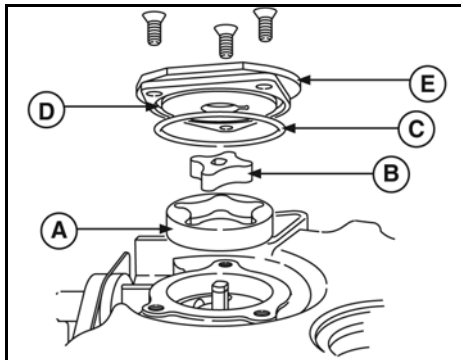

Figure 20
3. Pre-oil and install outer rotor (D, Figure 20) in pump cavity. Do not use force to install.
4. Pre-oil and install inner rotor (C) in pump cavity.
6. Place o-ring (B) in groove in cover (E) or sump.